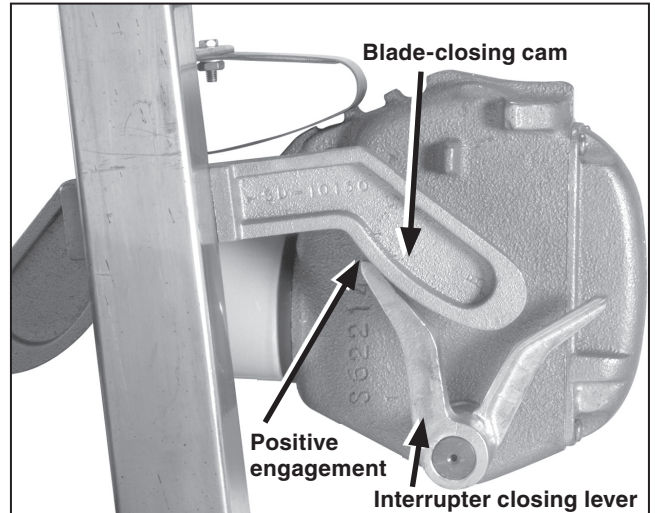

Figure 32. The blade assembly moving in the closing direction.
- (a) As the blade assembly moves in the *closing* direction, each blade-closing cam must make positive engagement with its respective interrupter closing lever. See Figure 32.